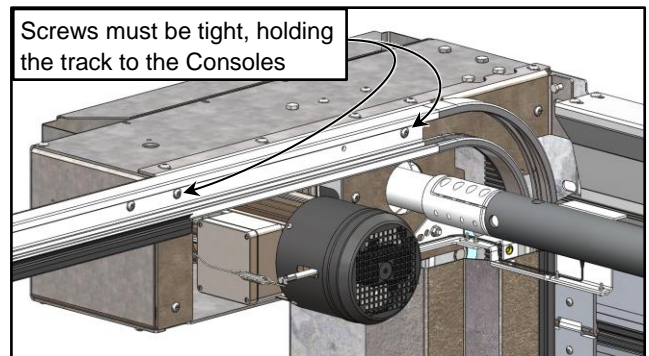

Figure 28
5. Inspect the hardware used to attach the spiral track sections to the left & right console assemblies. Tighten the hardware as required. Replace any missing or damaged hardware. (See Figure 28)